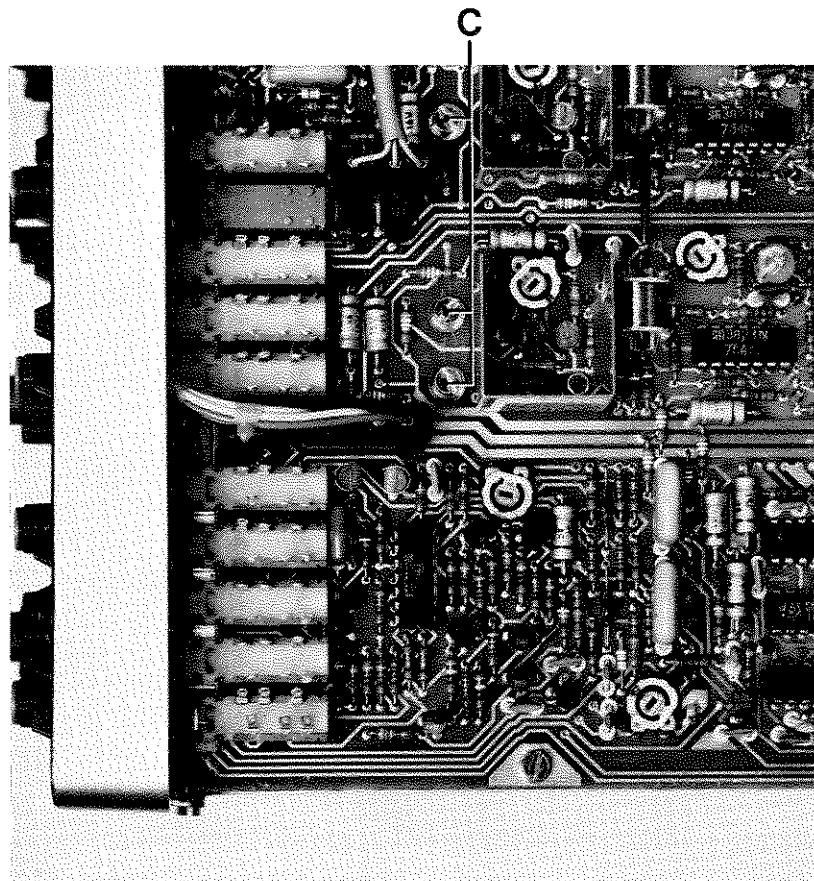

Fig. 3.23. Removing the front assembly (screws C)
- Remove the three screws C (Fig. 3.23).